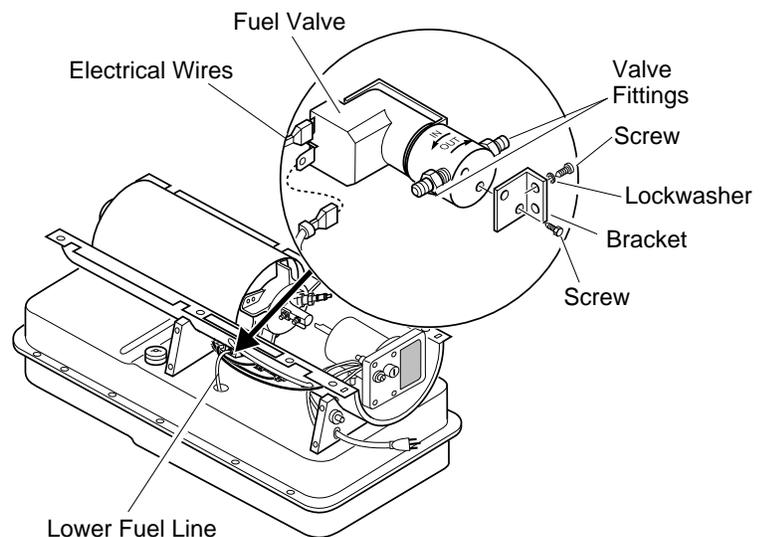

Figure 11 - Fuel Valve Replacement
3. Pull lower fuel line off the fuel valve fitting (see Figure 11).
4. Disconnect red and white wires from fuel valve (see Figure 11).
5. Using 1/4" nut driver remove 2 screws/lockwashers holding fuel valve and bracket to lower shell (see Figure 11). Save these screws/lockwashers.
9. Connect red and white wires (polarity not important). Connect upper and lower fuel lines to fuel valve. See Figure 11.